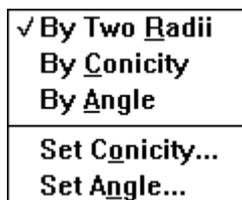

Fig 3.10 *Cone* popup menu
**Draw | Cone** command invokes popup menu **Cone** (Fig 3.10).